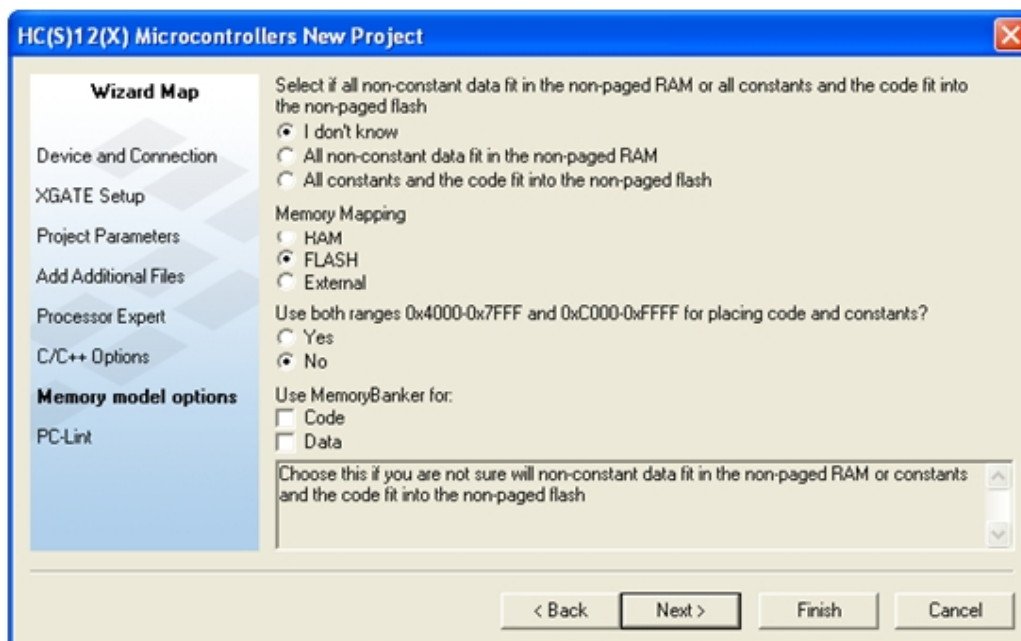

Figure 3-8 Memory model options Screen
13. The **Memory model options** screen appears. The Memory model options are available for derivatives from HCS12X family. As shown as **Figure 3-8**.